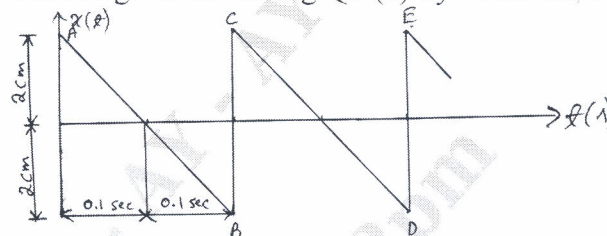

Fig.Q.2(b)
b. Formulate the periodic motion given in the Fig.Q.2(b) by harmonic series. (10 Marks)